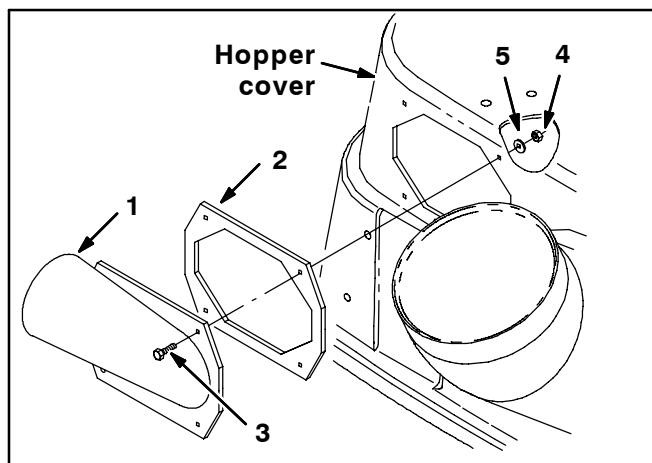

FIG. 9
12. Use four hex screws (3), washers (5), and hex nuts (4) to install the tube weldment (1) and foam gasket (2) over the hole in the hopper cover. Hand tighten hardware. Refer to Fig. 9.